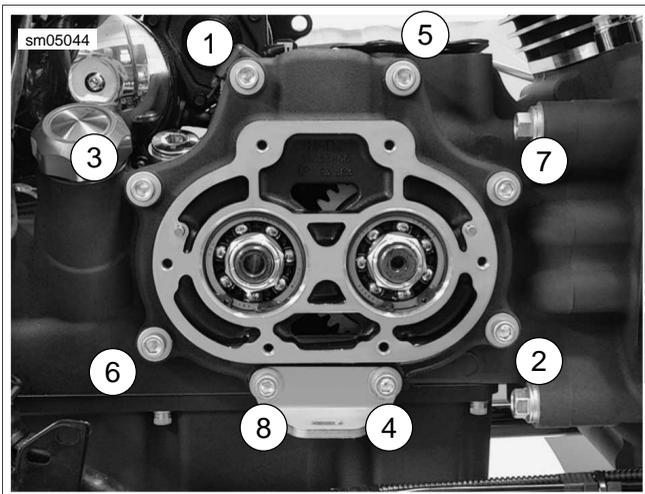

Figure 7-33. Side Door Torque Sequence
6. Figure 7-33. Tighten all side door hardware in the sequence shown to 13-18 ft-lbs (17.6-24.4 Nm).